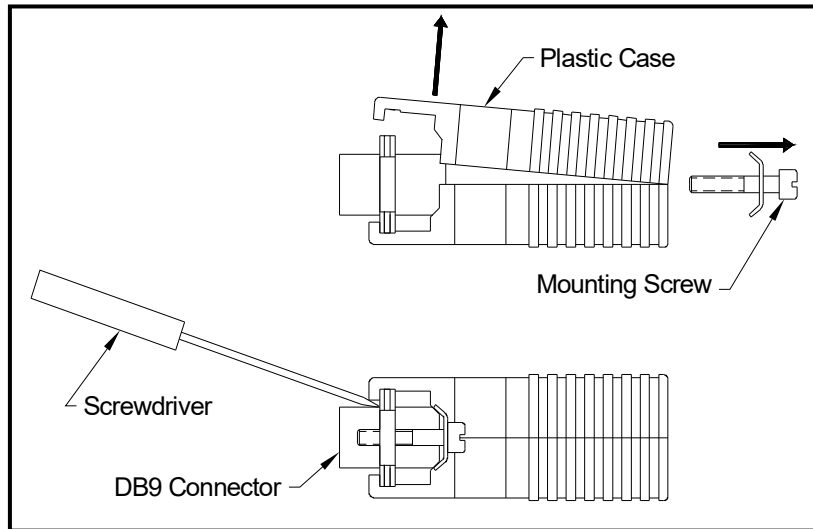

Figure 10: Opening the Converter Case
5. Use a small screwdriver to pry open the *plastic case* of the serial interface converter, as shown in *Figure 10*.